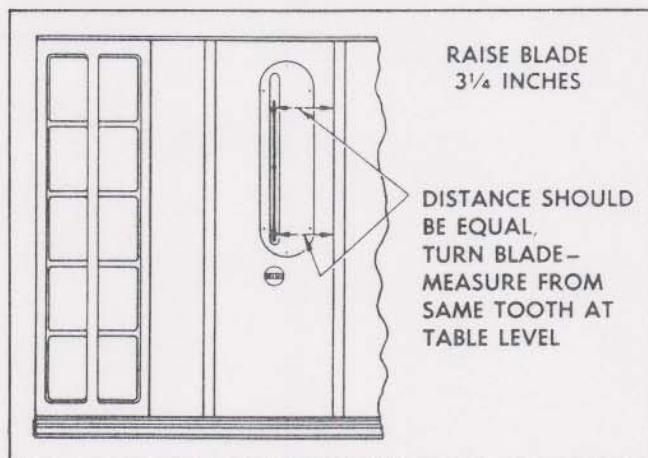

FIGURE 9
2. Measure **ACCURATELY** from one tooth on the blade to an edge of either miter slot, as explained and shown in Fig. 9.